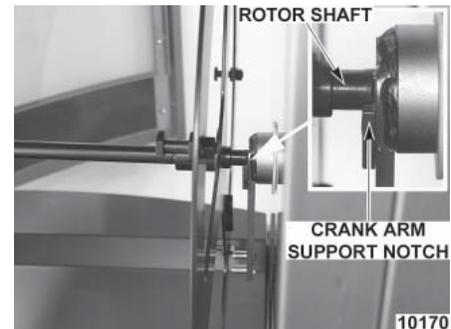

Figure 6
STEP 3: Place the drive side of the rotor shaft on the drive arm support notch (Figure 6).